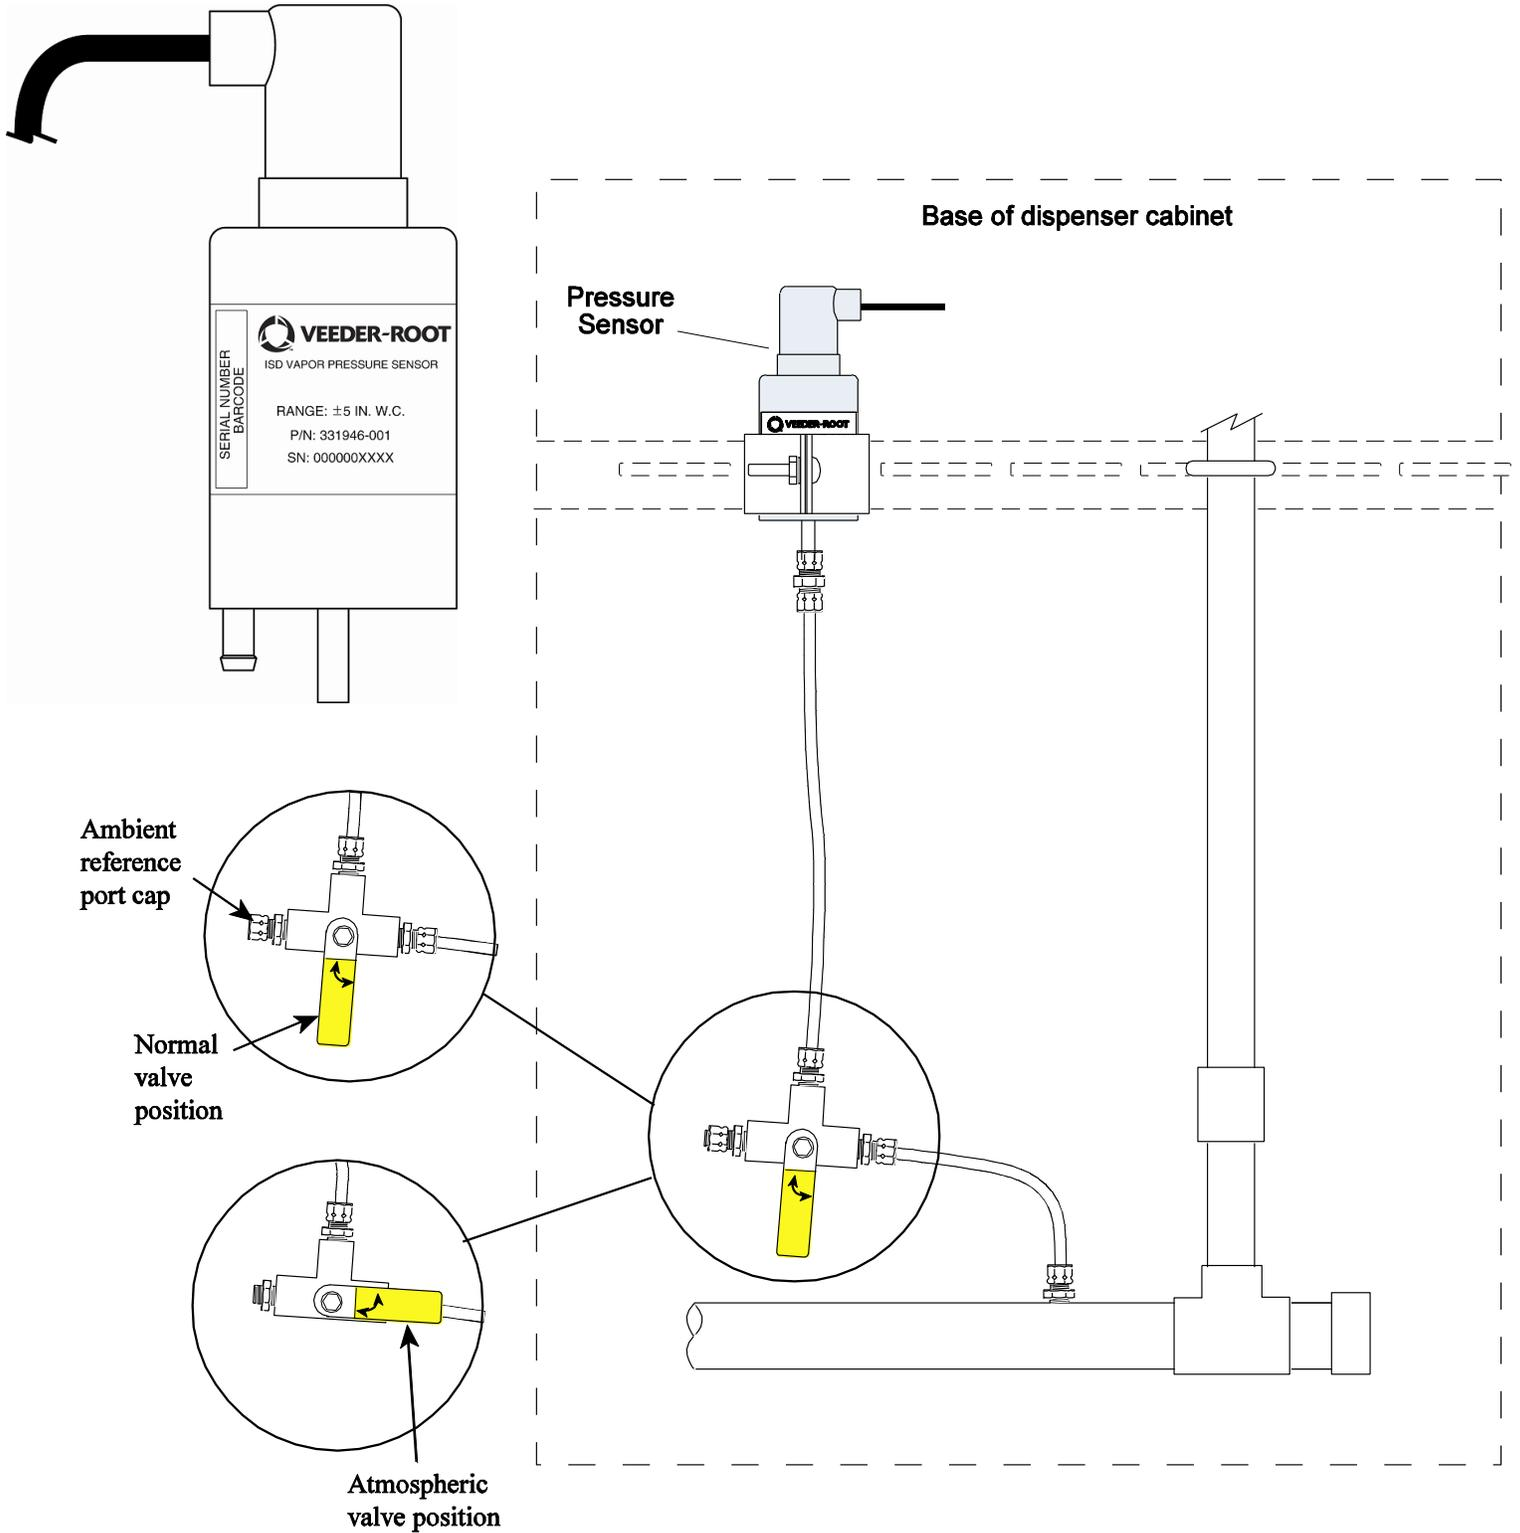
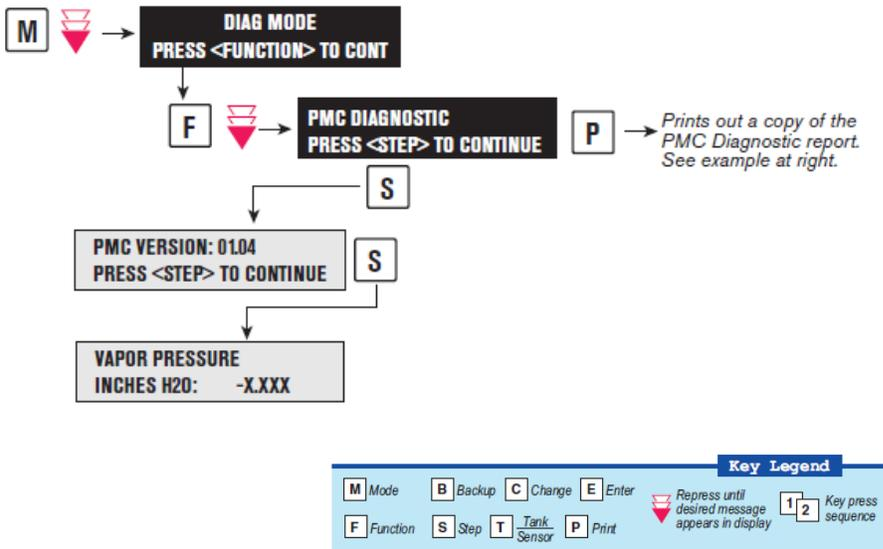

Figure 10-4
Figure 10-5
- 8.2 For gasoline dispensing facilities equipped with the VST Membrane Processor or Veeder Root Vapor Polisher Processor access the current vapor pressure sensor reading as indicated in Figure 10-4.
For gasoline dispensing facilities equipped with the Franklin Fueling Systems Healy Clean Air Separator or Hirt VCS 100 Thermal Oxidizer access the current vapor pressure sensor reading as indicated in Figure 10-5.
- 9.3 For gasoline dispensing facilities equipped with the VST Membrane Processor or Veeder Root Vapor Polisher Processor access the current vapor pressure sensor reading as indicated in Figure 10-4.
STEP 8.3	TLS 350 SENSOR VALUE _____ inches WC (OBTAIN VALUE USING TLS CONSOLE KEYPAD SEQUENCE SHOWN IN FIG. 10-4 or FIG. 10-5, Vapor Pressure)
STEP 9.3	NON-CALIBRATED SENSOR VALUE _____ Inches WC (OBTAIN VALUE USING TLS CONSOLE KEYPAD SEQUENCE SHOWN IN FIG. 10-4 or FIG. 10-5, Vapor Pressure)